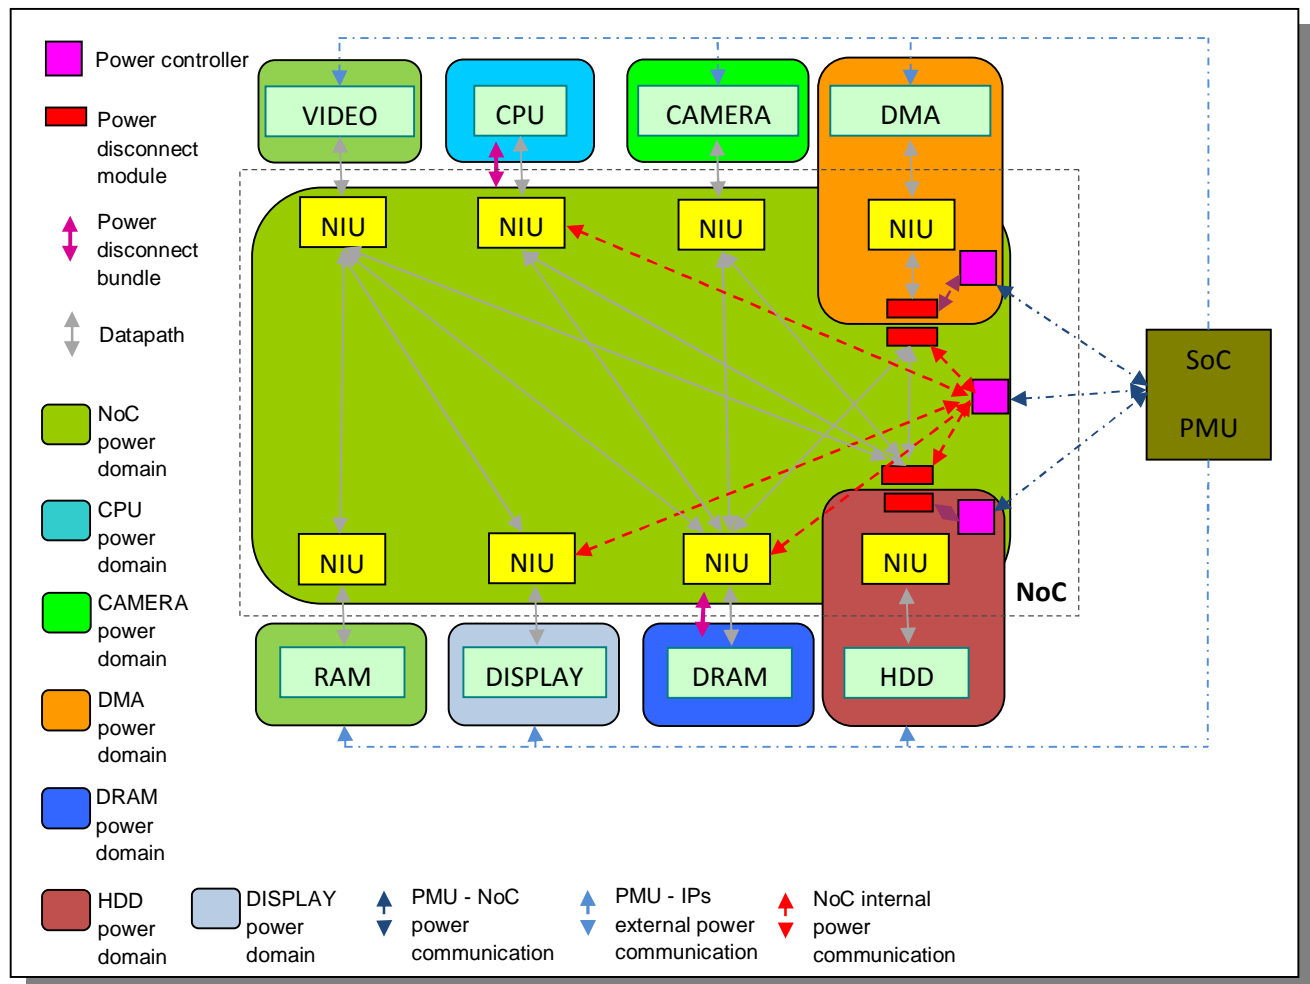

Fig.1 Power domain partitioning
- a. According to Fig.1, the CPU, DRAM, SRAM, VIDEO, DISPLAY and CAMERA NIUs are supposed to belong to the NoC power domain, for this reason in column "power" let's select noc_pwr_domain for all of the associated clock manager